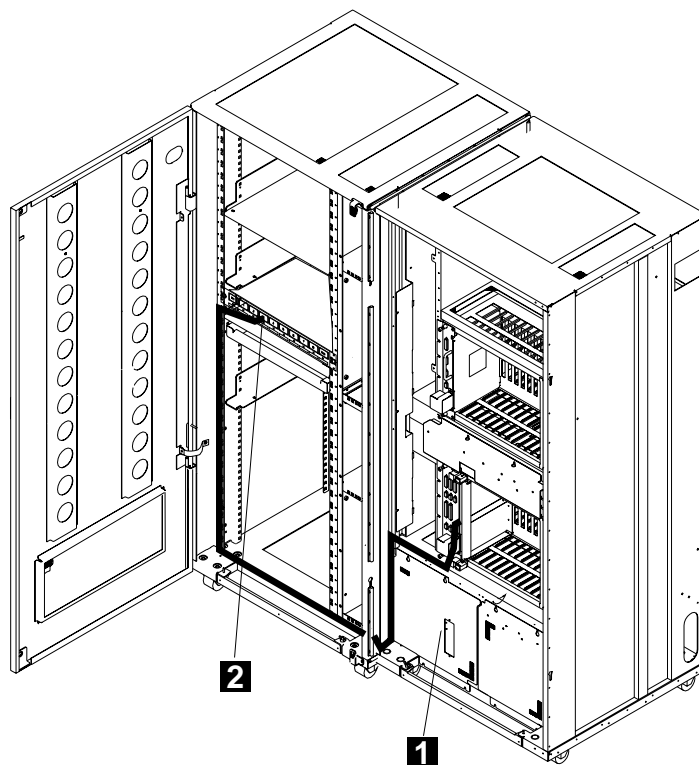

Figure 2-36. Connection of the 3746-900 to the 8228 (Controller Expansion Attached)
- **Attached** to the controller expansion frame, refer to Figure 2-36 on page 2-32